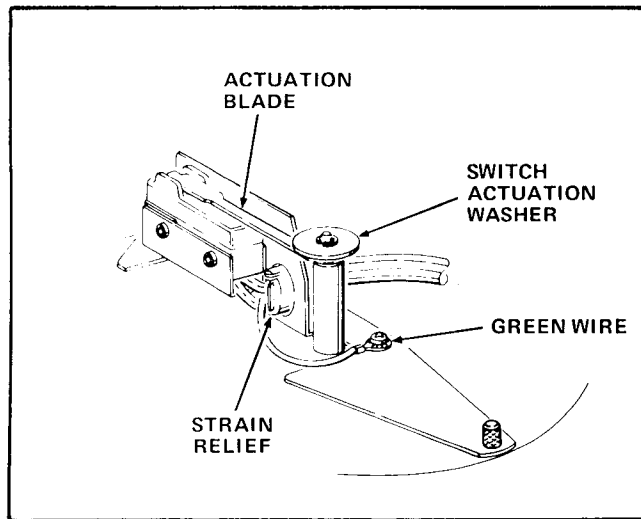

FIGURE III-4
2. Be sure the Actuation Blade on the Ice Level Switch is under the Switch Actuation Washer on the Cover Assembly. See Figure III-4.